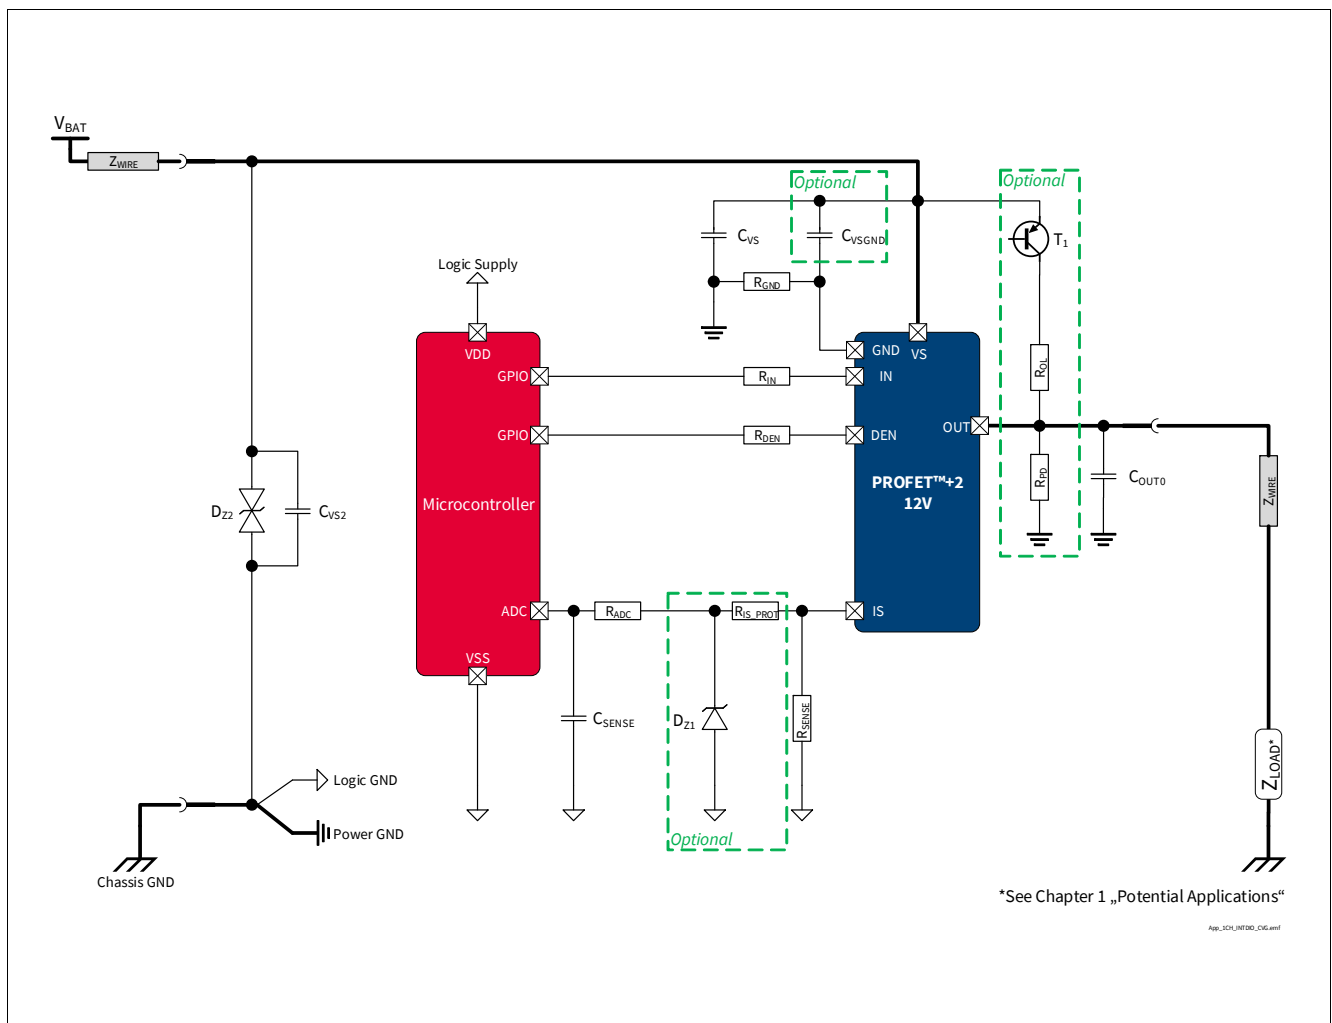

Figure 42 BTS7012-1EPA Application Diagram
1.02, 2019-10-15	<p>P_8.7.3.1, P_8.7.3.7, P_8.7.3.8 updated (added in Note or Test Condition: link to Figure 25)</p> <p>P_7.5.3.4, P_7.5.3.5 updated (added in Note or Test Condition: DEN = “low”; link to Figure 19)</p> <p>P_7.5.3.12 updated (added in Note or Test Condition: see Figure 21; deleted unnecessary space in Symbol: $dV_{OUT} / dt \rightarrow dV_{OUT} / dt$)</p> <p>P_8.7.3.6 updated (added in Note or Test Condition: see Figure 26)</p> <p>P_9.7.3.1 updated (added in Note or Test Condition: See Figure 34)</p> <p>P_9.7.3.6 updated (Min./Typ./Max.: -45%/4800/+45% → -34.0%/4875/+34.0%)</p> <p>P_9.7.3.9 updated (Min./Typ./Max.: -38%/4800/+38% → -25.0%/4875/+25.0%)</p> <p>P_9.7.3.12 updated (Min./Typ./Max.: -34%/4800/+34% → -22.5%/4875/+22.5%)</p> <p>P_9.7.3.15 updated (Min./Typ./Max.: -22%/4800/+22% → -12.5%/4875/+12.5%)</p> <p>P_9.7.3.17 updated (Min./Typ./Max.: -9%/4800/+9% → -7.7%/4875/+7.7%)</p> <p>P_9.7.3.19 updated (Min./Typ./Max.: -6%/4800/+6% → -4.5%/4875/+4.5%)</p> <p>P_9.7.3.21 updated (Min./Typ./Max.: -5%/4800/+5% → -4.0%/4875/+4.0%)</p> <p>P_7.5.3.11 updated (added in Note or Test Condition: see Figure 19)</p> <p>P_4.2.3.6 updated (Max.: 12 mJ → 15 mJ)</p> <p>Figure 1, Figure 42 updated</p> <p>Chapter 1 updated (or LED equivalent → or equivalent electronic loads (e.g. LED modules))</p> <p>P_4.3.0.7 added</p> <p>Table 23 updated</p> <p>Chapter 5.1 updated (added: see Chapter 10 for the complete application setup overview)</p>